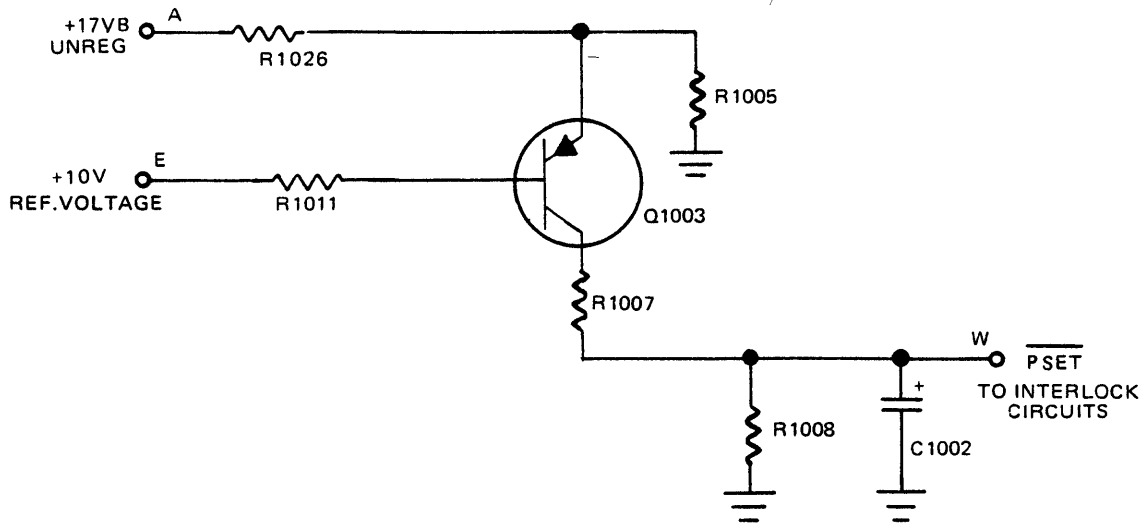

Figure 4-7. Power Reset Circuit Simplified Diagram
Figure 4-7 shows a simplified diagram of the power reset circuit. The circuit consists of Q1003 and associated components. The emitter of Q1003 is connected to +17 volts, and the base is connected to +10 volts through R1011. Under these conditions Q1003 conducts at saturation, causing the collector to be near +17 volts and the voltage on the  $\overline{\text{PSET}}$  output (W) at approximately +3 volts (logic high). However, if the +17 volts falls and the  $V_{be}$  of Q1003 becomes less than 0.6 volts, transistor Q1003 turns off and  $\overline{\text{PSET}}$  becomes a logic low.